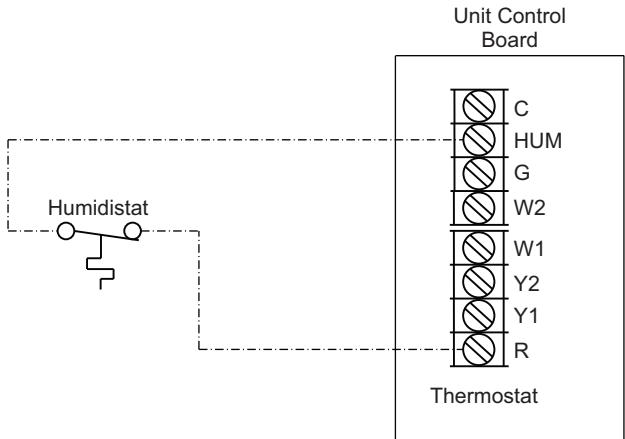

Fig. 57 – Humidistat Connections to UCB
3. Connect one of the leads from the 2-conductor cable to the HUM terminal on the UCB (Unit Control Board). Connect the other lead to the R terminal on the UCB. See Fig. 57.